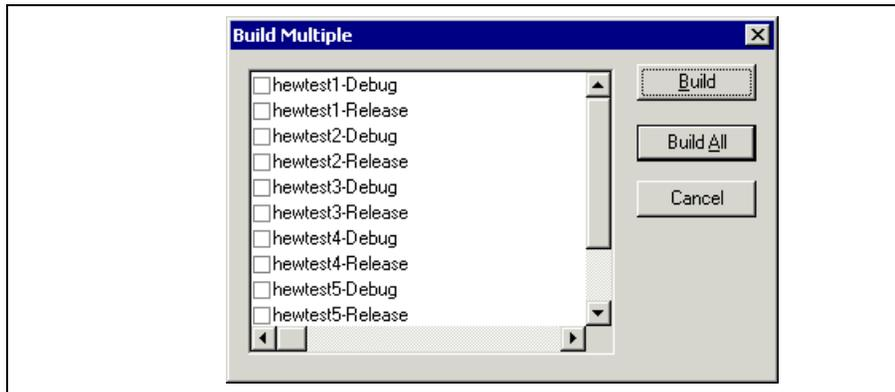

Figure 2.18: Build Multiple Dialog
1. Select [**Options->Build Configurations...**] to display the “Build Configurations” dialog (figure 2.18).
1. Select [**Build->Build Multiple**]. The figure displayed in figure 2.18.
2. The build multiple gives you the choice of which projects and configurations should be built. To select which projects and configurations need to be built select the check box next to the project – configuration combination you want to build. For example, in figure 2.18 if you wanted to build the entire “hewtest2” project you would check the “hewtest2-Debug” and the “hewtest2-Release” and leave all other check boxes unchecked.